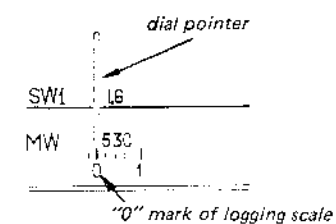
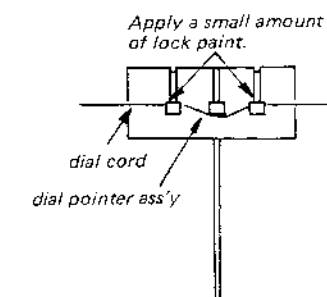

Fig. 2-7.
Fig. 2-8
3. Set the dial pointer ass'y so that the dial pointer places on the mark "0" of the logging scale as shown in Fig. 2-7 below, and fix the dial pointer ass'y on the dial cord with a small amount of lock paint as shown in Fig. 2-8 below.